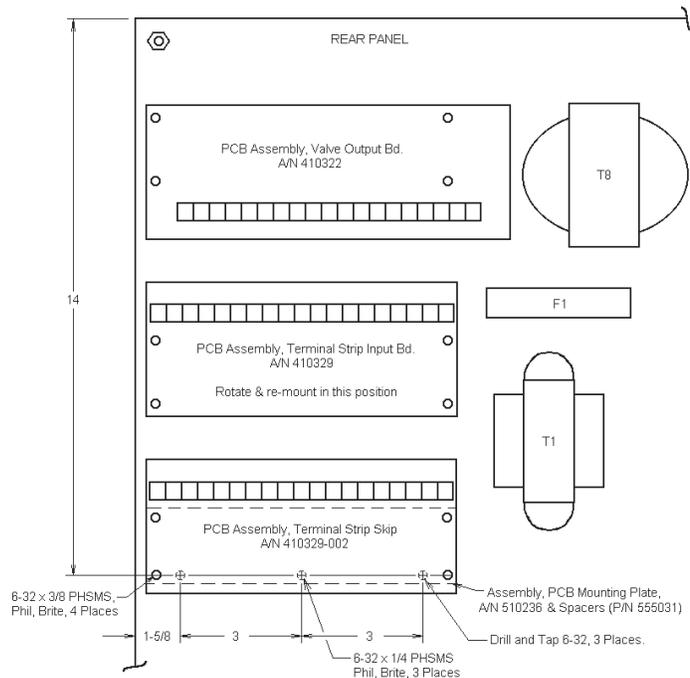

Figure E2. Mounting detail for “L”, “H”, “G” or “U” Cabinet
3. Remove the four (4) screws holding Terminal Strip Input Board (A/N 410329) to its mounting bracket. Rotate Board 180° (so the terminal strip is at the top) and re-mount Board using same four (4) screws.
4. Drill and tap rear panel per Figure E2, be sure to vacuum or otherwise remove ALL metal chips before assembling PCB Mounting Plate (A/N 510236) to rear panel using 3 ea. 6-32 x 1/4 PHSMS, Phil., Brite. Add extra spacer (P/N 555031) to each existing spacer (4 places) to offset PCB 1" from panel.
5. Mount External Terminal Strip Skip PCB (A/N 410329-002) to bracket (P/N 510236) using four (4) #6-32 x 1/4 PHSMS, Phil., Brite. See Figure E2.